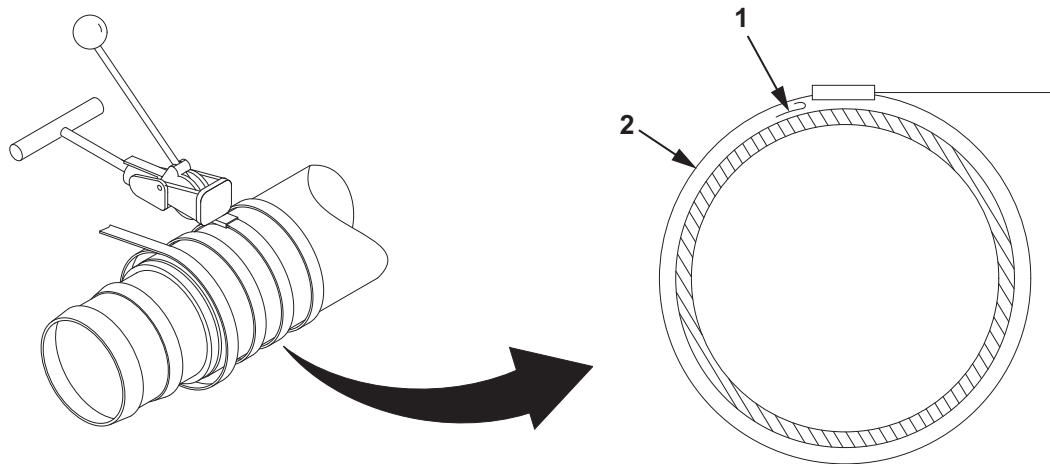

Figure 16. Hose Assembly Repair.
42. Install the bridge buckle (Figure 16, Item 1) under clamp (Figure 16, Item 2).
43. Tighten clamp (Figure 16, Item 2) until the clamp (Figure 16, Item 2) cannot be tightened by hand any further.